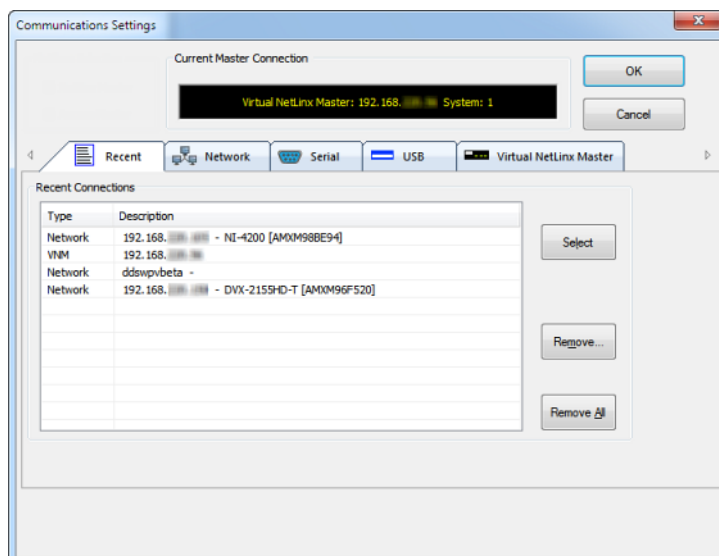

FIG. 16 NetLinX Studio - Communication Settings dialog (TCP/IP selected)
3. Click **System Settings** to open the *Communications Settings* dialog. If you do not have a system selected, click the **Default Settings** button (FIG. 16).